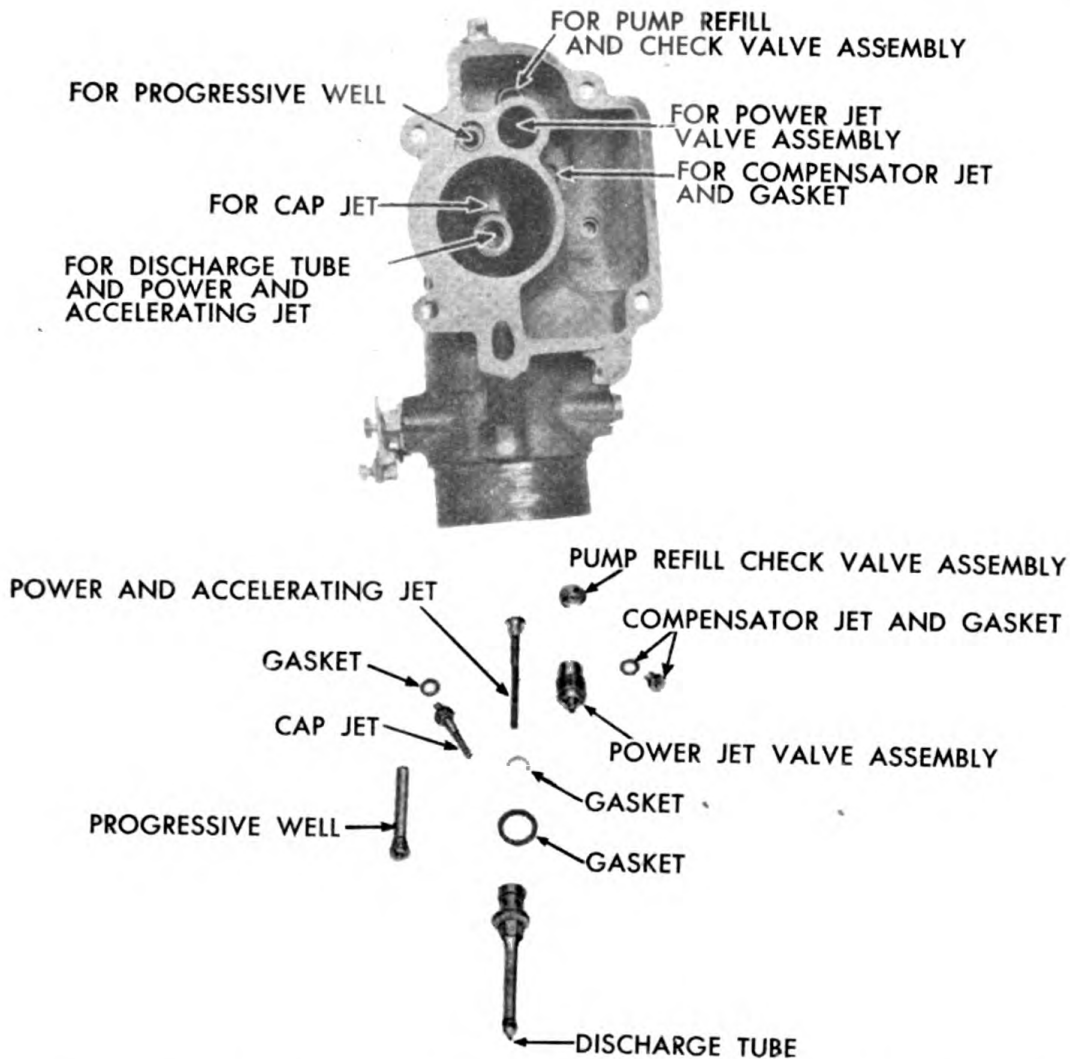

Figure 261. Lower Carburetor Body with Parts Removed.
E. Install main jet and fibre washer in threaded passage in bottom side of fuel bowl, using service tool C-161-82. Figure 261.